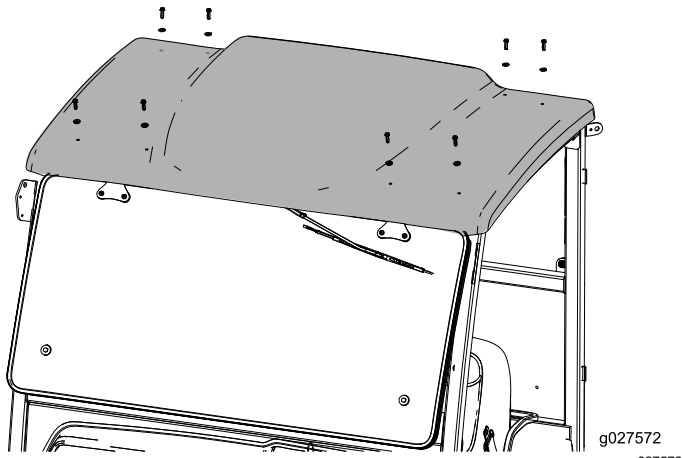

Figure 1
5. Remove the bolts securing the top of the cab (Figure 1) and carefully lift off the top of the cab.
Note: Your cab may not look exactly like the figure. You may need to remove more bolts than shown in Figure 1.